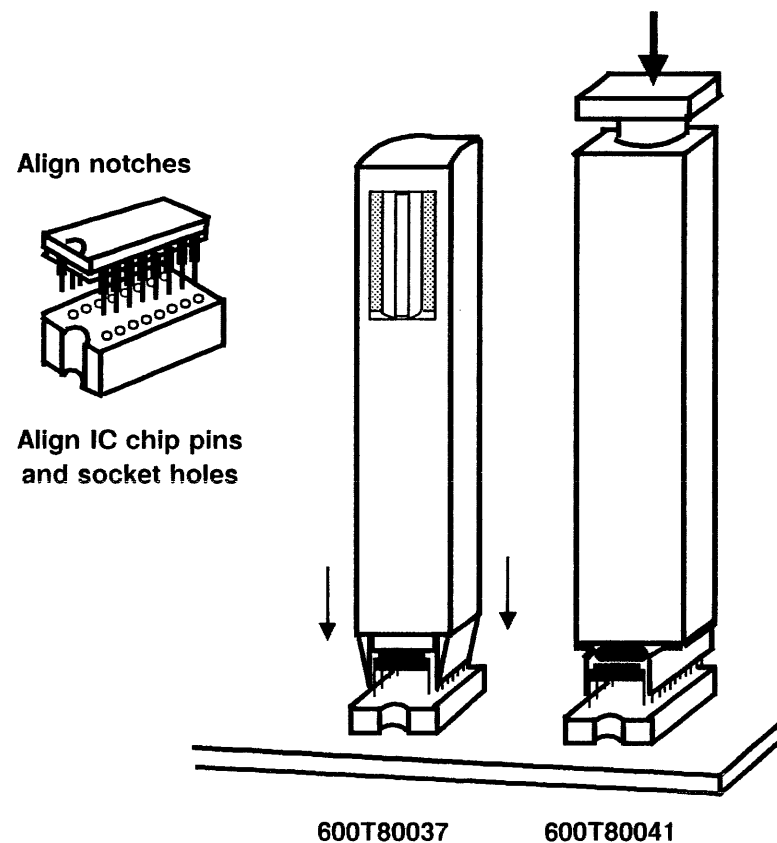

Figure 18. IC Chip Insertion
5. Insert the new IC Chip into the socket on the PWB (Figure 18).